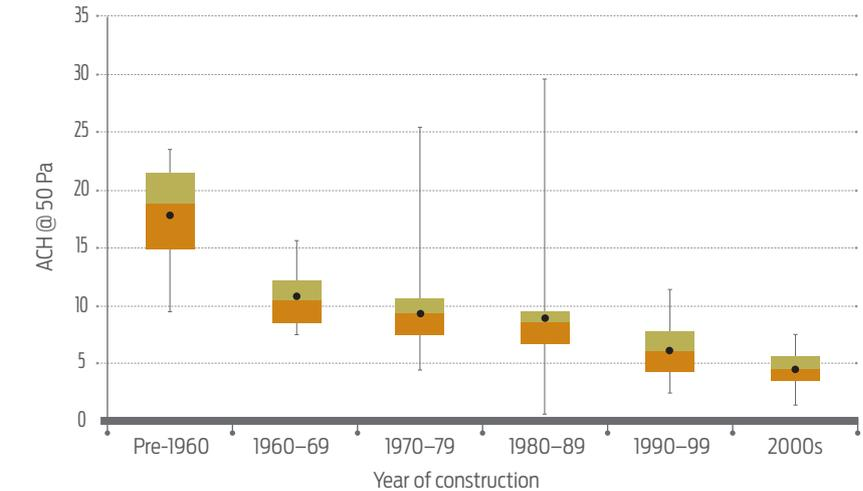

Figure 1: Airtightness trends of New Zealand houses.
**OUR HOUSES** have become more airtight with the use of sheet linings for walls and ceilings and the wholesale use of aluminium joinery. Draughts that used to ventilate old villas and bungalows have been eliminated in new builds and renovated older buildings (see Figure 1).